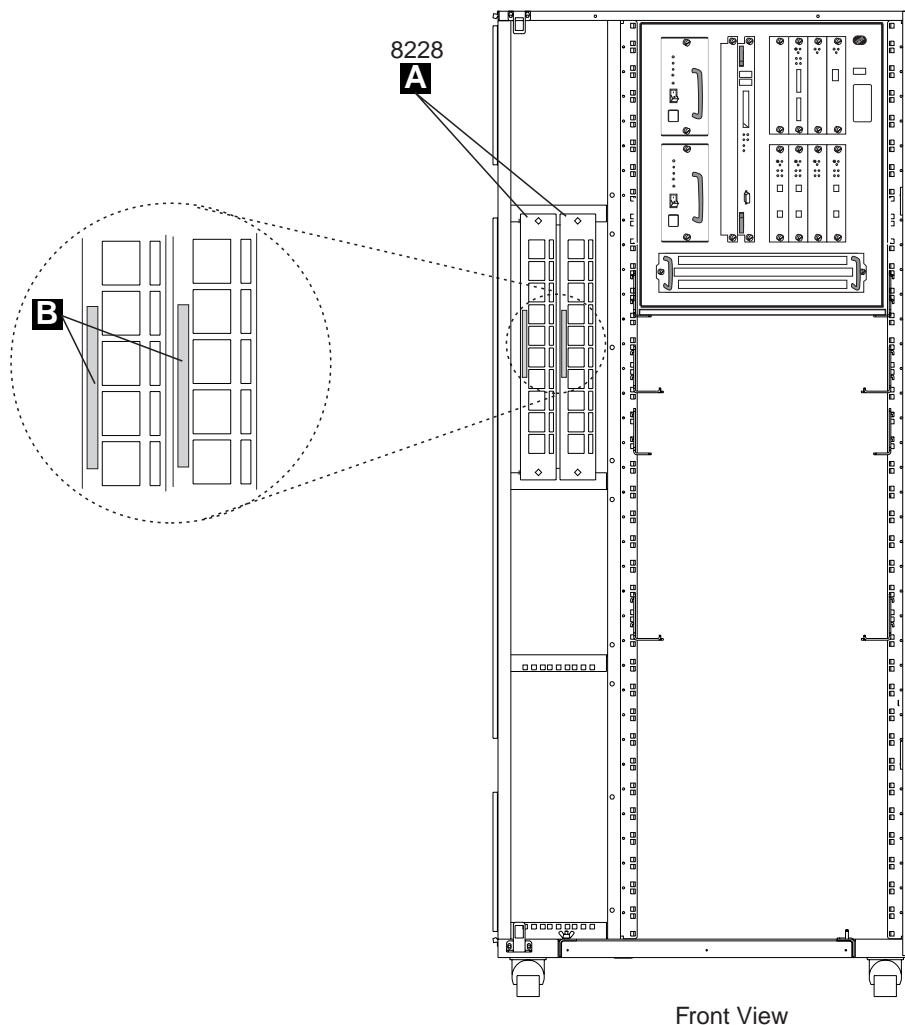

Figure 2. Installing the 8228 (Controller Expansion)
1. ____ Refer to Figure 2, and remove the two screws used to install the 8228s **A** in the controller expansion.